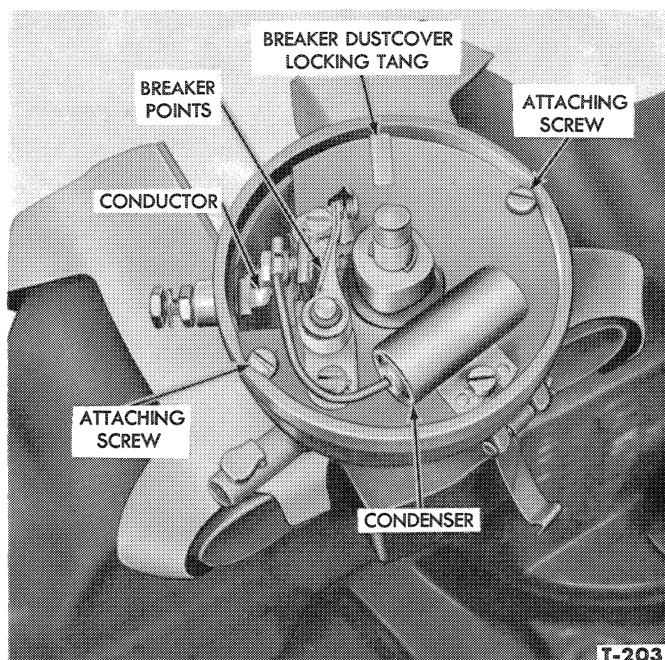

Figure 11—Top View of Distributor
8. Position the breaker plate in the base with the breaker dust cover locking tang facing upward as shown in Figure 11. Install the two plate attaching screws.